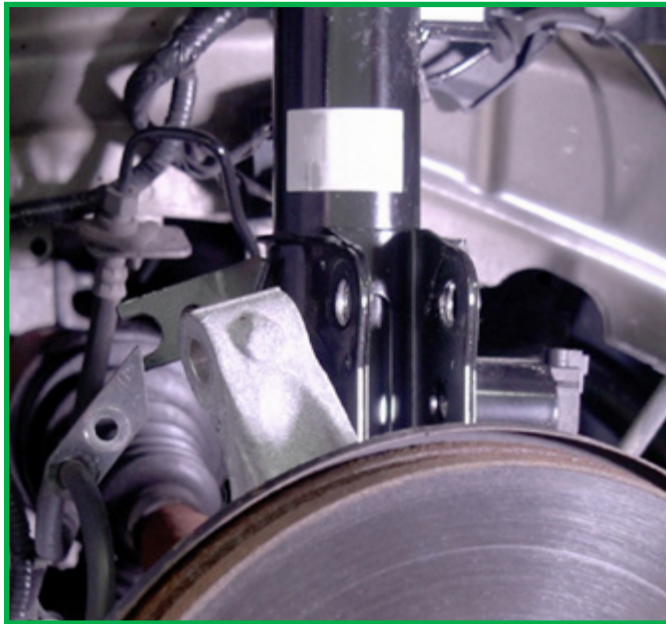

FIGURE 14
8. Separate the bottom strut mount from the wheel carrier. (Figure 14)